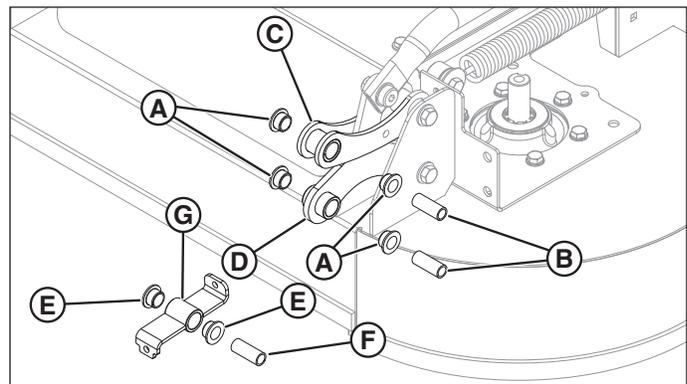

Figure 3. Spacers and Bushings
- Starting on the trim side of the unit verify that the two (2) flange bushings (**A, Figure 3**) and 1-1/4" long spacer (**B**) are installed in the top link weldment (**C**). Verify that the two (2) flange bushings and 1-1/4" long spacer installed in the bottom link weldment (**D**).
- Verify that the two flange bushings (**E, Figure 3**) and 1-1/4" long spacer (**F**) are installed into the caster lock (**G**).